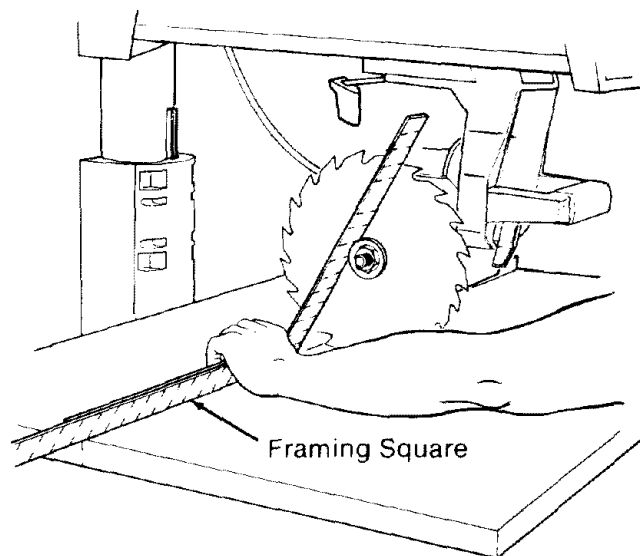

Fig. 84 - Squaring Blade to Fence
1. Put the *radial arm* in the 0° miter position with the *blade* just in front of the *fence*. (Figure 84)
3. Place the framing square with the long edge against **both** the *fence* and the *table*, and the short edge against the *blade* just above the *arbor shaft*. Make sure that the edge of the square is on the *blade* and not on the set of a tooth. (Figure 84)